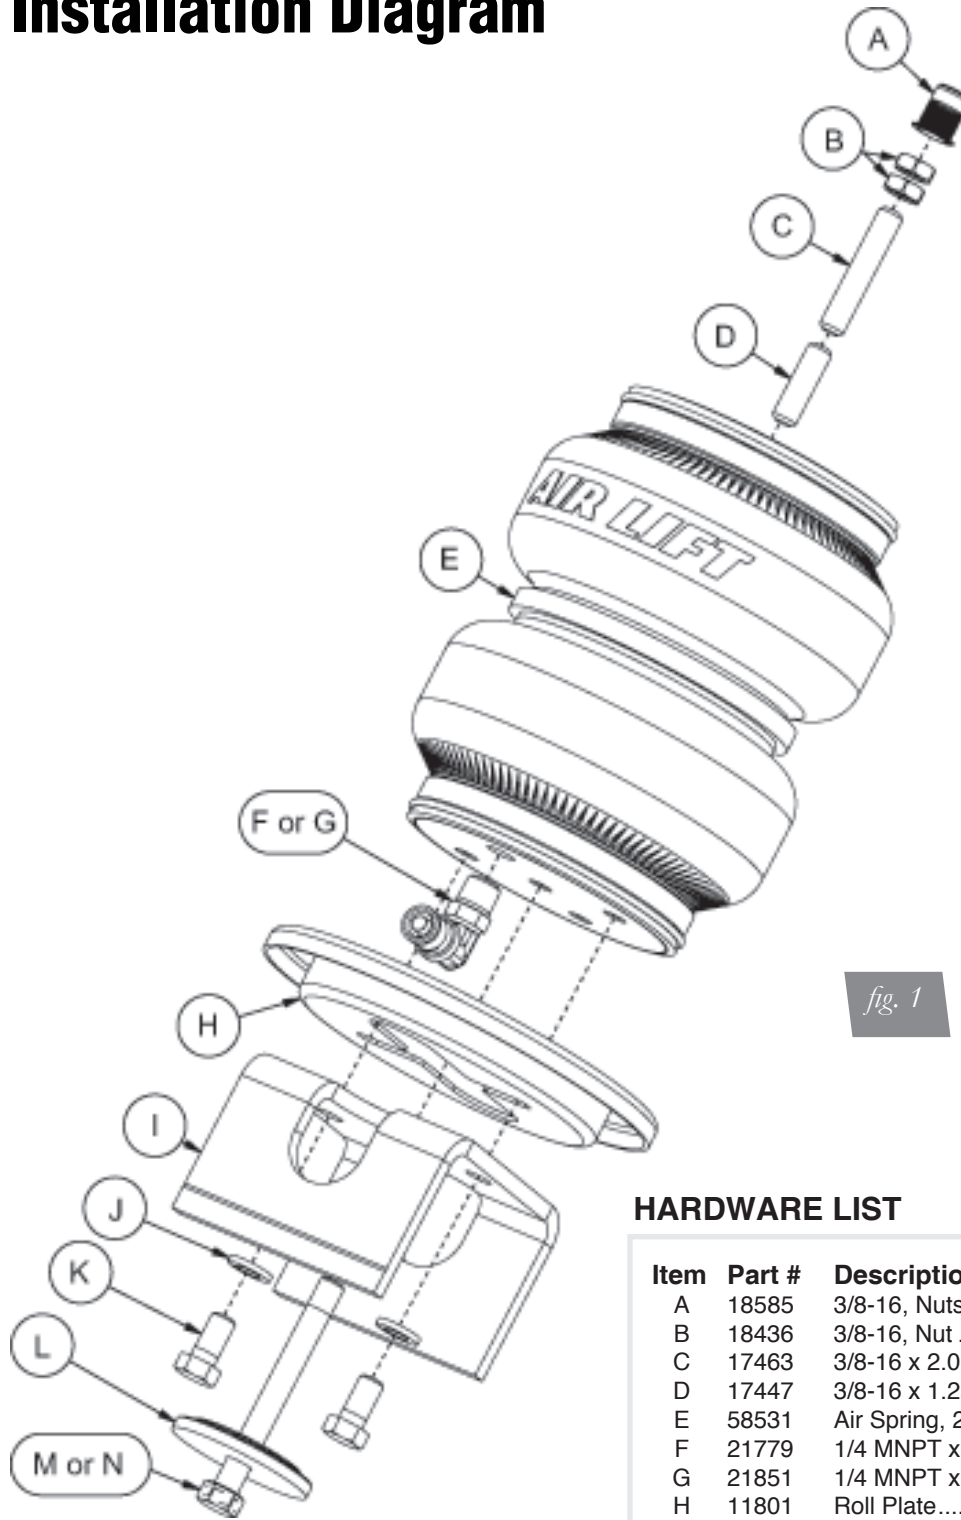
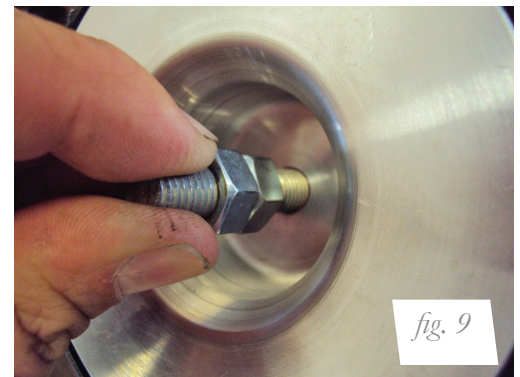
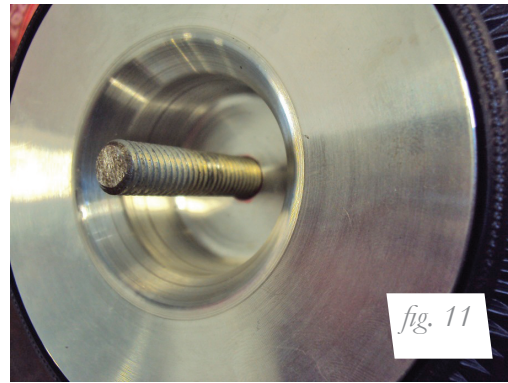

fig. 1
fig. 10
fig. 11
3. Two lengths of threaded studs are included with the kit (C or D, fig. 1). The shorter stud is for vehicles that retain the coil spring perch bump. The longer threaded stud is for vehicles without the spring perch bump. Apply Loctite to the threads of the upper end cap and thread in the appropriate stud. Take the supplied nuts and thread both onto one stud (fig. 8, 9). Using the nuts jammed together, tighten the stud into the end cap until it bottoms (fig. 10). Remove both nuts (fig. 11).
If the lower bracket has been cut, the shorter length bolt should be used to secure the assembly to the lower transverse link with the centering washer and lock washer. Uncut brackets use the longer bolt (C or D, fig. 1) (fig. 25).